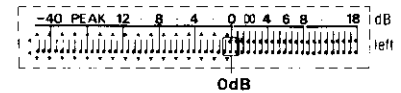

Fig. 25
9. At this time, check that 0dB indicator is dimmed (intermediate brightness between full brightness and light-out (See fig. 25)).